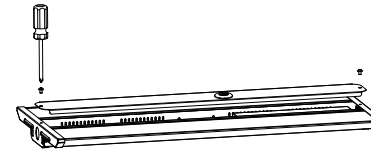

Figure 9
- Step1. Open the face cover with screw driver;(Figure 9)